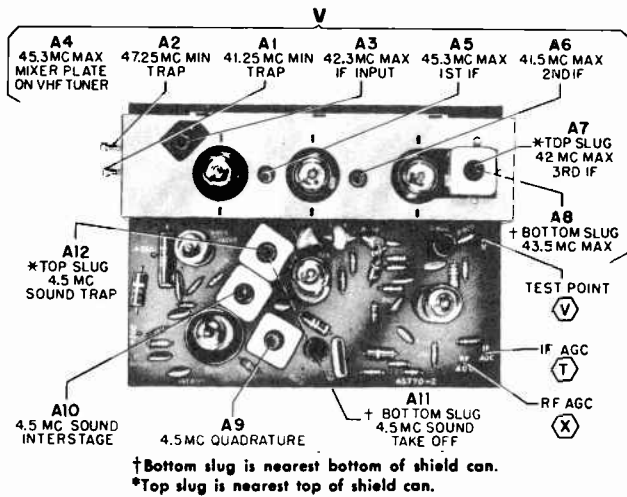

Figure 12. Inside Chassis View of Printed Wiring Board Showing Test Point Locations and IF Alignment Data.
- Connect negative of 3.0 volt bias supply through 10K resistor to test point "T" (IF AGC), see figures 12 and 13, positive to chassis.
2. Select the strongest TV station received. Adjust set for normal operation. See figure 12 for adjustment locations.